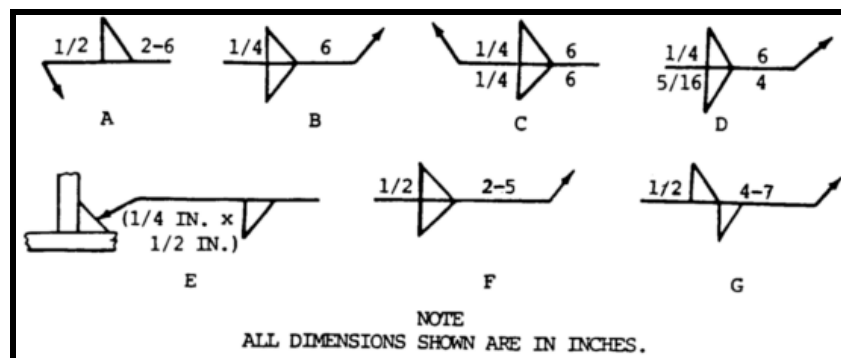

Figure-15: Dimensions of fillet welds.
3.5 Fillet welds – Dimensions of fillet welds shall be shown on the same side of the reference line as the weld symbol (A, figure-15). The size of the weld is shown in left and the length of the weld is placed on the right. 2-6 indicates, length of weld is 2 inch and the gap between two consecutive weld beads (from centre to centre) is 6 inch.
When fillet welds are indicated on both sides of a joint and no general note governing the dimensions of the welds appears on the drawing, the dimensions of both welds may be indicated as shown in the symbol B or C, figure-15.
When the welds differ in dimensions, both must be given as shown by symbol D, figure-15.
The size the fillet weld with unequal legs must be shown in parentheses to left of the weld symbol. Weld orientation is not shown by the symbol and must be shown on the drawing when necessary (E, figure-15).
The weld on both sides with length & pitch is shown in F, figure-15. The length of weld is 2 inch and pitch is 5 inch with fillet leg length of $\frac{1}{2}$ inch.
In a similar way, the increments of staggered welds is shown in G, figure-15.